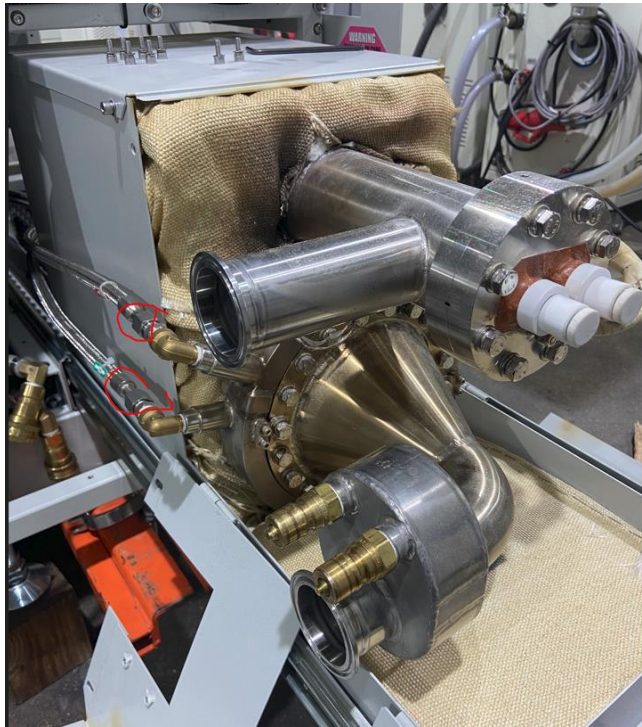

Fig 7
7. Remove 2- flex tube for cool coil, Pay attention to the water inlet and outlet (See Fig7).